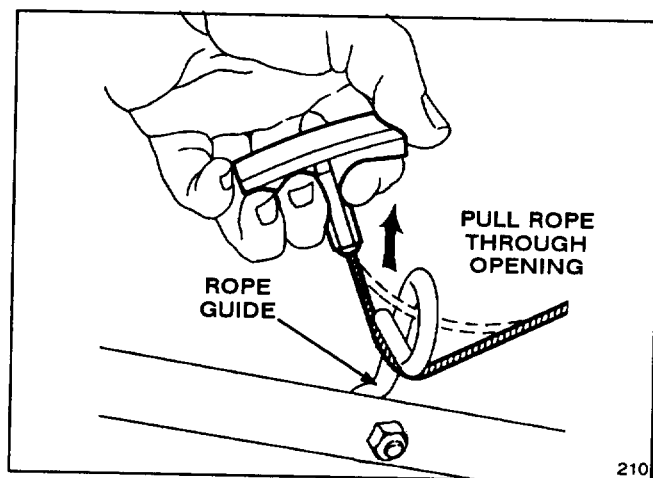
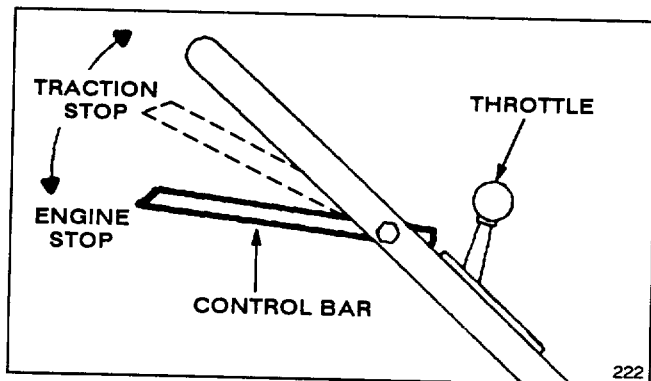
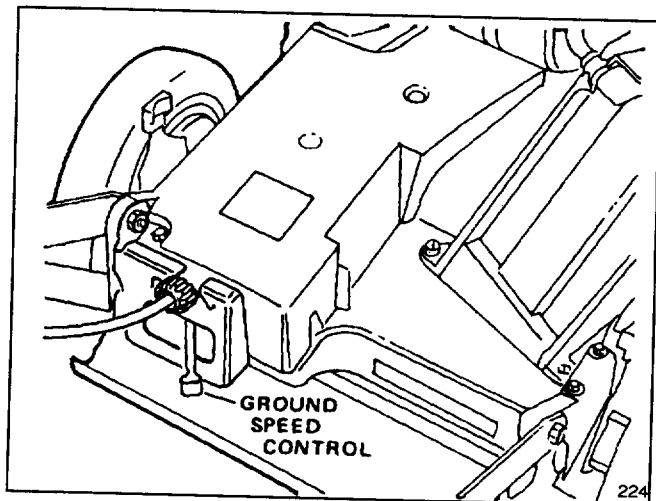

Figure 4
Figure 11
Figure 12
1. Pull starter rope through opening in rope guide (Fig. 4). By squeezing control bar (Fig. 11) against handle, blade brake will release and allow rope to be pulled easily up through rope guide.
1. **CONTROLS**—Throttle control, control bar, and fingertip starter are on upper handle (Fig. 11). Ground speed control is located at rear of belt cover (Fig. 12).